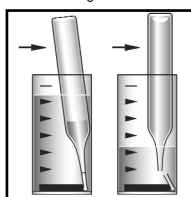

Figure 3
3. Immediately place the CHEMet ampoule, tip first, into the sample cup and snap the tip. The ampoule will fill leaving a bubble for mixing (fig. 3).